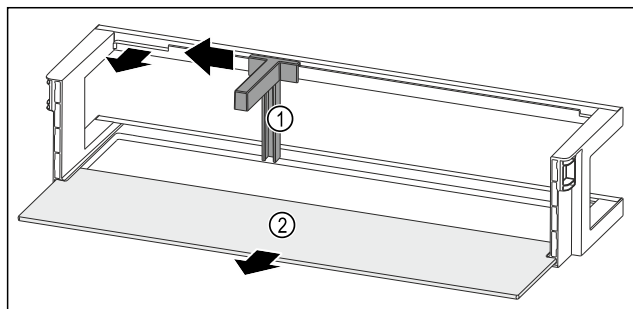

Fig. 130 Door rack with bottle holder and shelf
- Slide the bottle holder *Fig. 130 (1)* to the side as far as the recess.
- Remove the bottle holder *Fig. 130 (1)*.
- Remove the shelf *Fig. 130 (2)*.